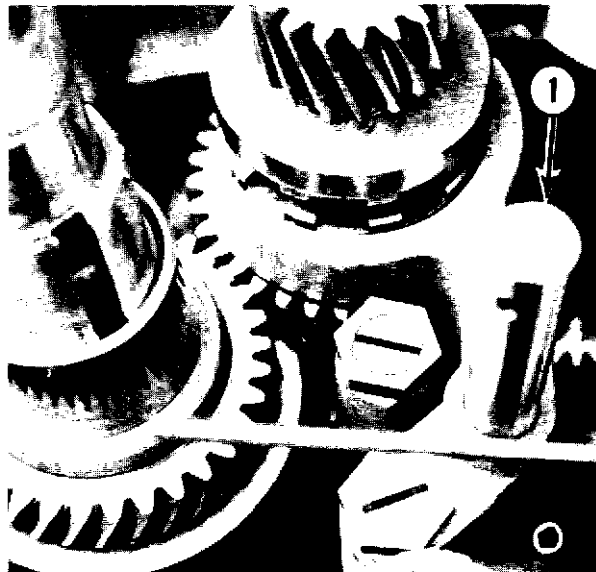

Fig. 11-26
- J. Install the upper and lower shifting yokes and insert the shifter shaft (1, Fig. 11-26).